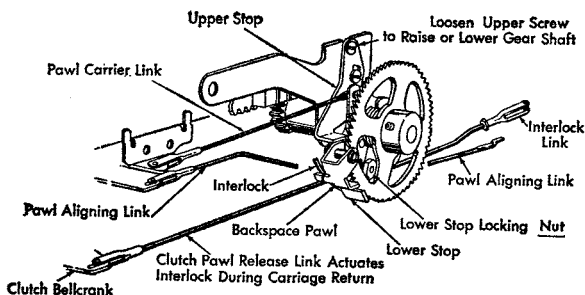

Figure 40. Rotary Backspace Mechanism
6. THE BACKSPACE PINION GEAR must mesh properly with the rack teeth (Figure 40). Adjustments may be made by loosening the screw which holds the main bracket to the rear rail just over the ratchet wheel. By loosening this screw slightly, the bracket may be tapped up or down until the pinion gear has a minimum of backlash and will still permit free movement of the carriage, without binding, for the full length of carriage travel. This is a very important adjustment which must be set carefully and critically. The screw must be tightened securely to prevent the adjustment from slipping during operation.
12. BACKSPACE INTERLOCK LINK. Adjust so that when the backspace cam is on its high point there will be approximately .007" clearance between the backspace interlock and the backspace pawl spring lug (Figure 40).